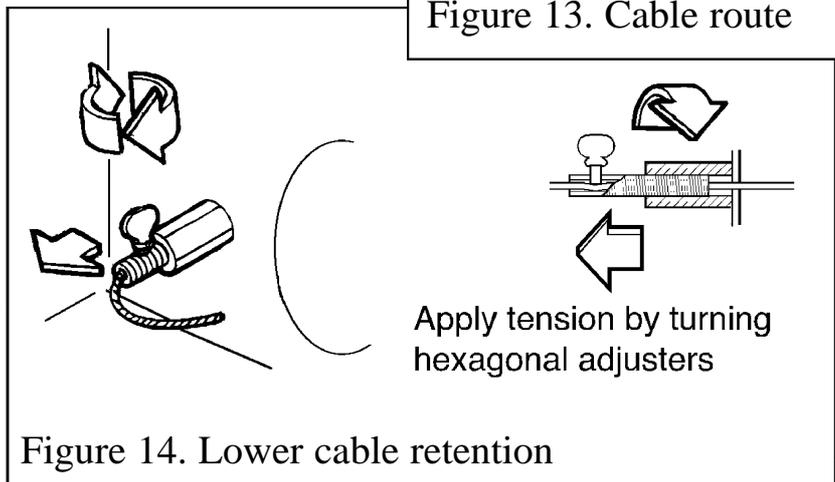

Figure 14. Lower cable retention
**9.** Pull each cable taut. Push the cable retainers hard up against the back panel. Tighten the screws in the retainers so that they clamp the cables in position. Apply tension to the cables by turning the hexagonal adjusters by hand (See figure 14).